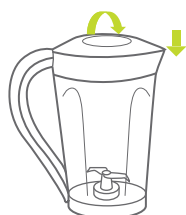

Fig. 37
6. when remove the blender jar from the housing first. You should turn the lid clockwise. (Fig. 37)